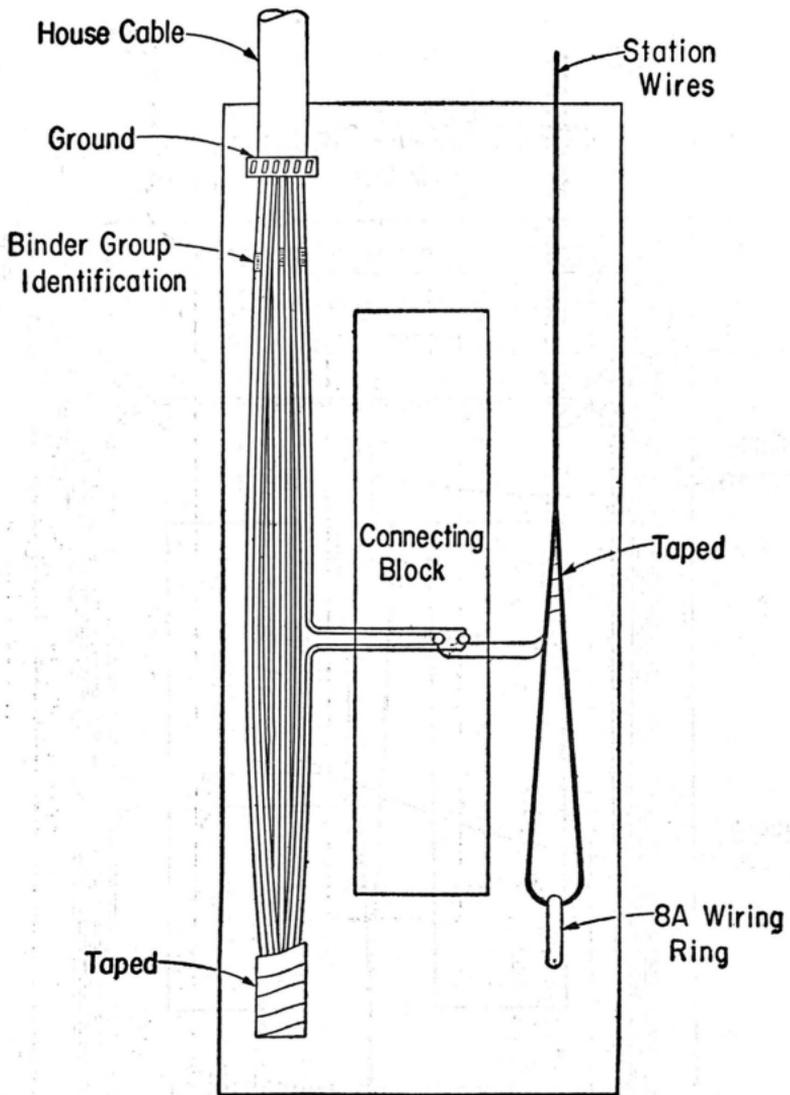

FIG. 5
6.11 The ends of the group of the pairs shall be cut 1/2" from the end of the box for clearance purposes. Insulate the conductor ends with a thorough coating of permo seal spray. Apply two coats at a 15-minute interval. After the second spraying has dried and the designated cable pairs are terminated cover the conductor bundle with two layers of vinyl tape as indicated in Fig. 5 or 6.